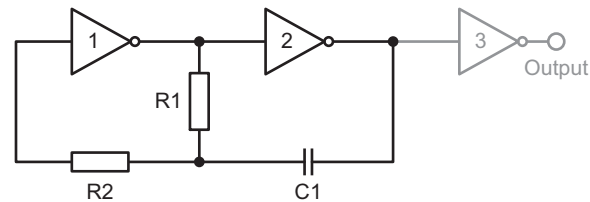

FIGURE 21.7 A pair of NOT gates (or their equivalent made from NAND or NOR gates) make an astable multivibrator. The third gate (grey) acts as a buffer.
- 8 Figure 21.7 shows NOT gates used in the astable. What other types of gate could be used, and how would they be wired?